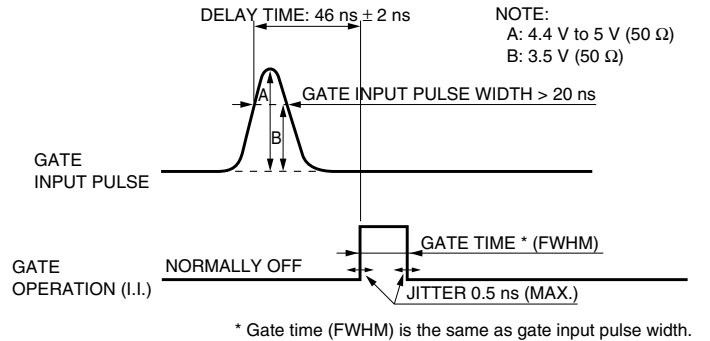

Figure 3: C9546 · C9547 Series
**NOTE:** (A)Please refer to Figure 1 and Figure 3.